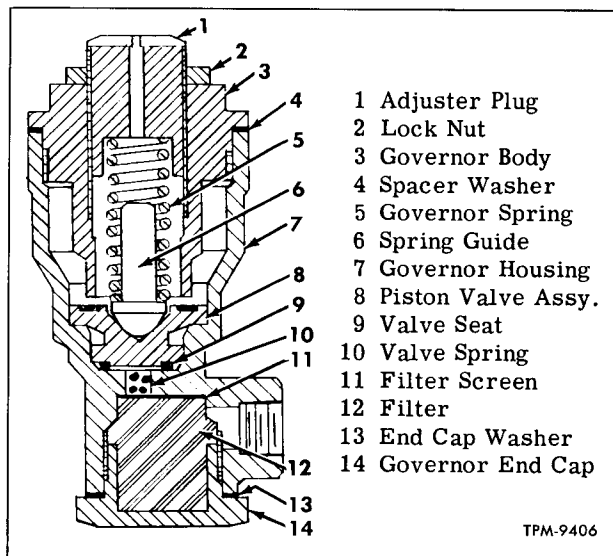

Figure 2—Air Compressor Governor
The air compressor governor consists of two separate units, a governor assembly and an unloader valve (figs. 2 and 3). The unloader valve is mounted directly on cylinder head. The governor assembly is bolted to a mounting bracket attached to two of the cylinder head studs.
1. Loosen lock nut (2, fig. 2). Use a screwdriver on adjusting plug (1, fig. 2).